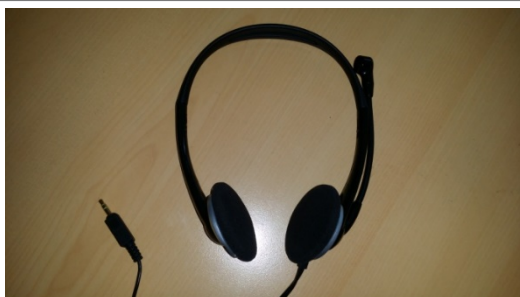

Figure 11. Headphones used as speakers
3. Headphones/speakers with male Jack as shown in Figure 11